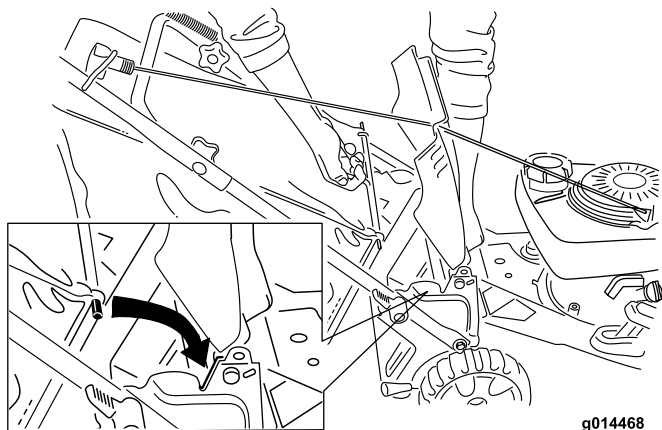

Figure 19
2. Raise and hold up the rear door, install the bag in the notches, and lower the rear door (Figure 19).